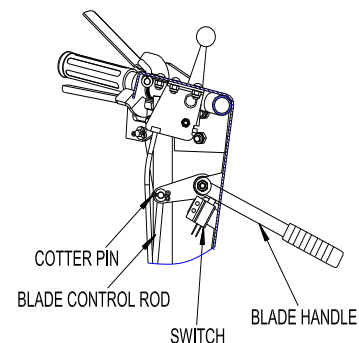

FIG 15
- Blade handle should be in the engage position. Handle should compress pressure switch at least 5mm, otherwise rod length should be adjusted. To change rod length, remove cotter pin from upper Blade Control Rod Assembly. Remove rod from lever bracket hole. Rotate rod until desired length is achieved to cause switch to compress correctly. Reinstall rod into lever bracket hole and add cotter pin. (See FIG 15)